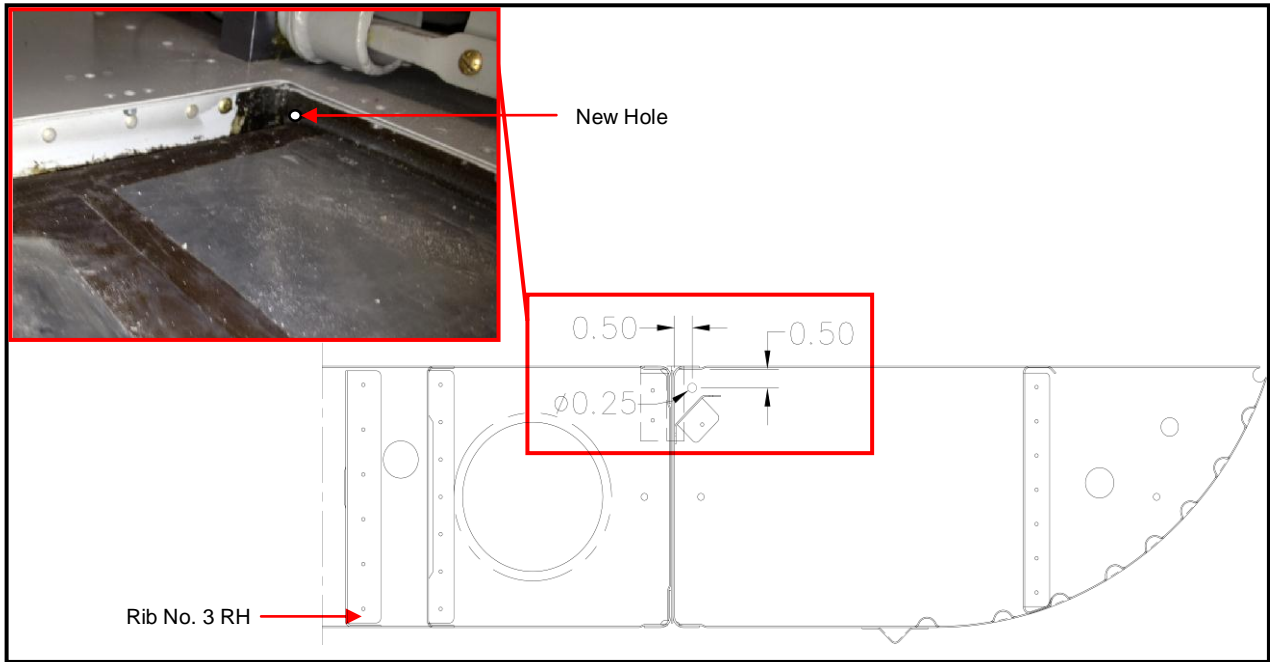

Figure 3: Hole 1 (View looking forward on Rib No. 3)
7. Gain access through sump tank access panel and drill $\frac{1}{4}$ in. hole through rib no. 3 RH (GA8-532023-253), Figure 3.